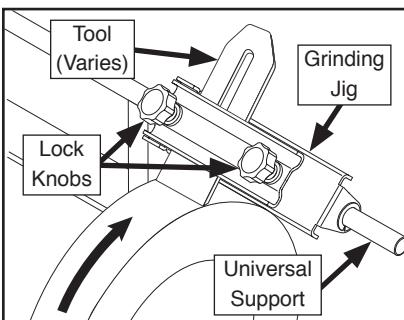

Figure 9. Grinding jig installed.
2. Slide the grinding jig onto the universal support, as illustrated in **Figure 9**.